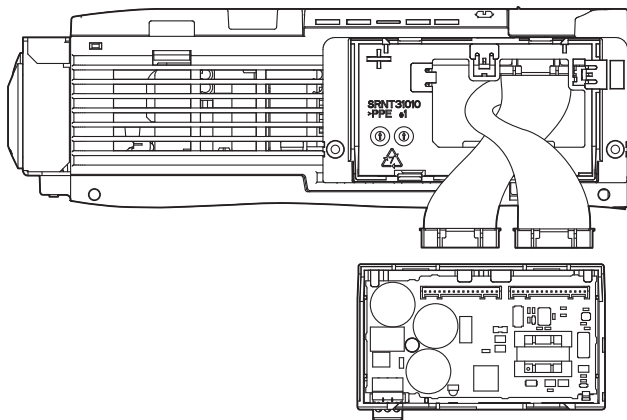

Figure 18 Cable Positioning (PS-V10M)
2. Confirm both cables are plugged in correctly according to **Figure 18**.
NOTICE: Connect the cables exactly as shown in **Figure 18**. Reversing the cable connections may damage the 24 V Power Supply Option.
3. Confirm both cables are plugged in correctly according to **Figure 18**.